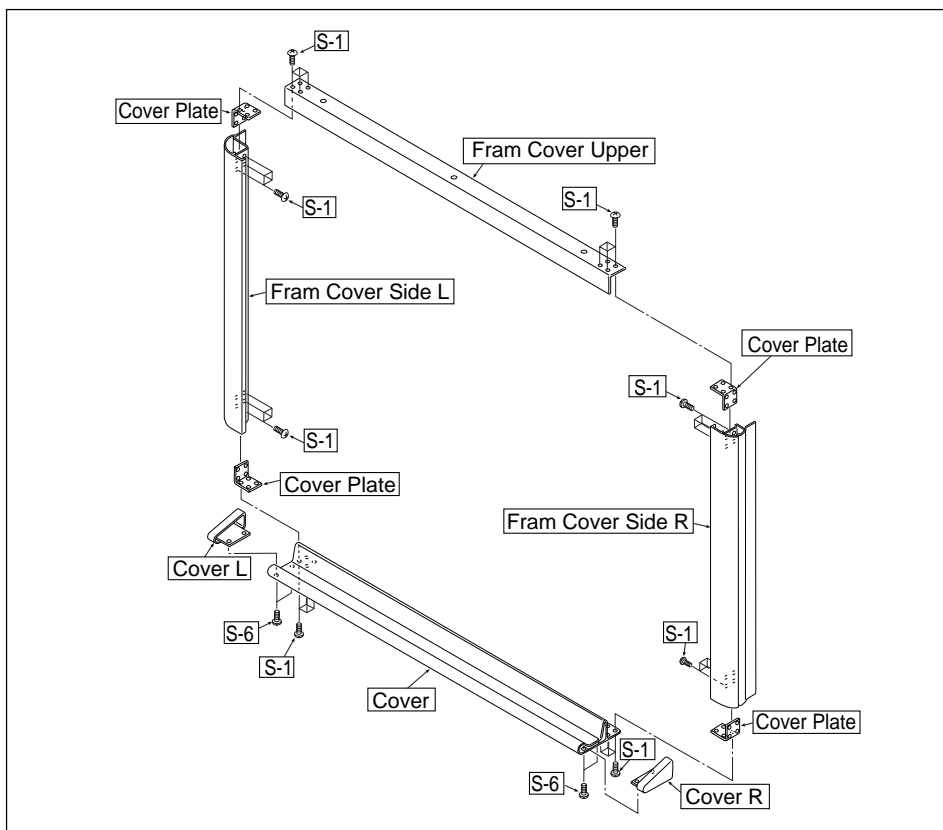

Fig. 9
6) Disassemble the Frame Cover Section. (See Fig. 9.)
Remove the "S-1" and "S-6" screws shown in Fig. 9 and disassemble the Frame Cover.